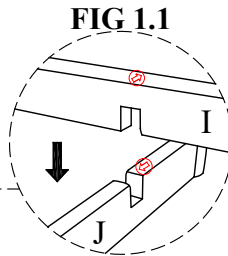

FIG 1.1
**Step 1.1** Attach Cross bar upper (I) to Cross bar lower (J) as shown on FIG 1.1